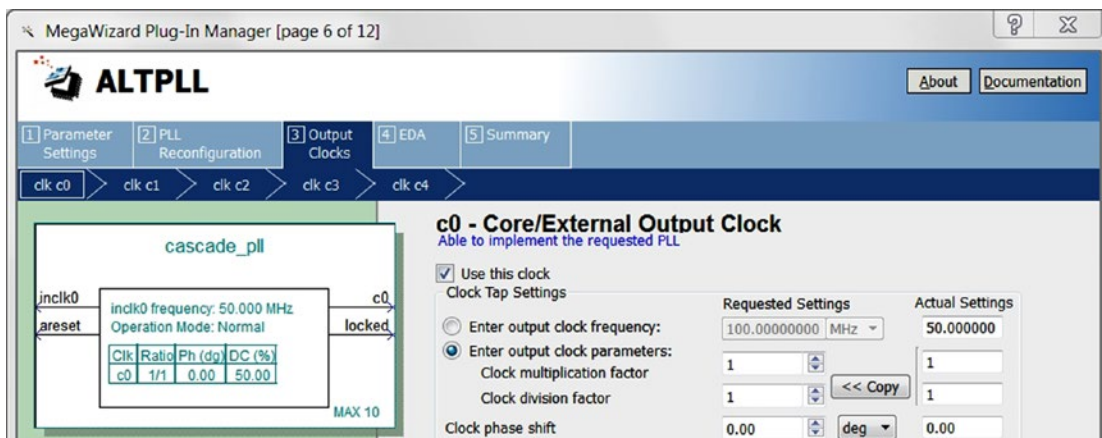
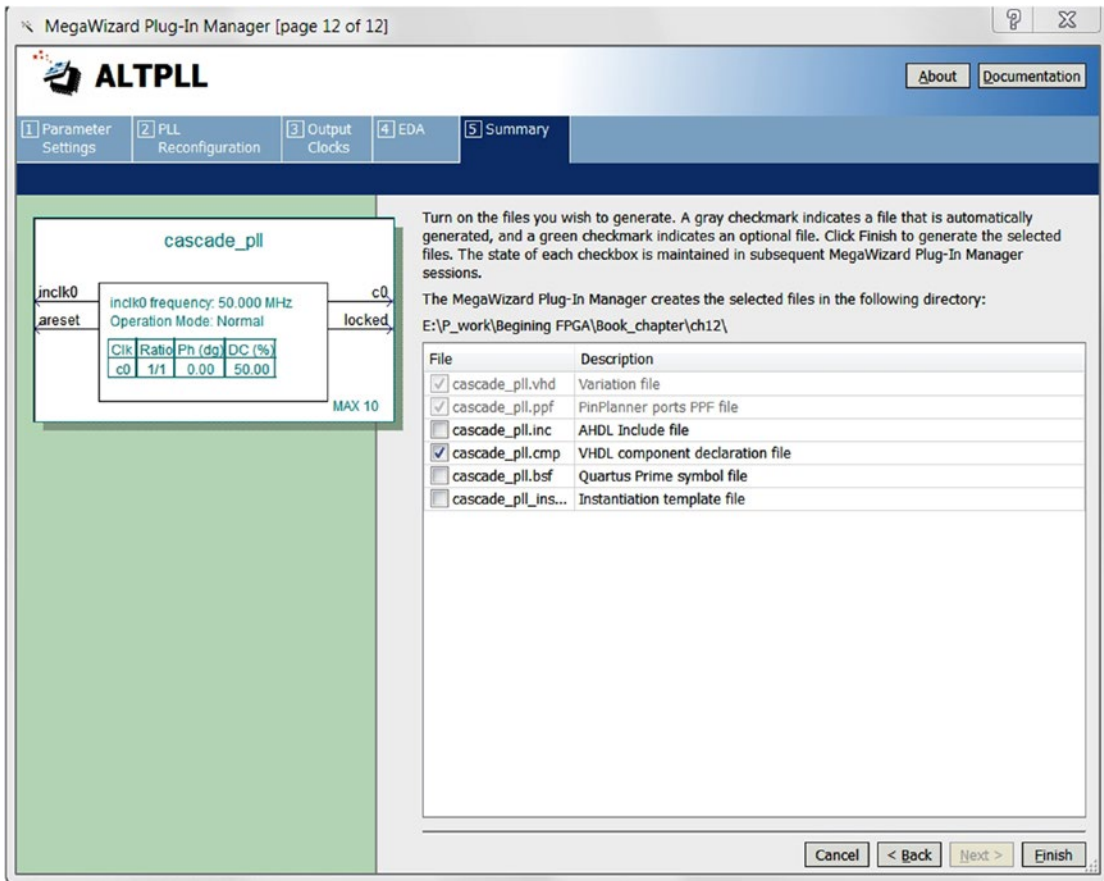

Figure 12-26. MegaWizard Plug-In Manager for Cascade IP—3
Figure 12-27. MegaWizard Plug-In Manager for Cascade IP—4
Step 3: Under the **3: Output Clocks** tab, the ADC PLL requires a 50 MHz clock. On the **clk c0** tab in Figure 12-26, change the division factor to **1** and click **Finish**. Figure 12-27 will show up. Click **Finish**. All of the IP files will be added to the project.